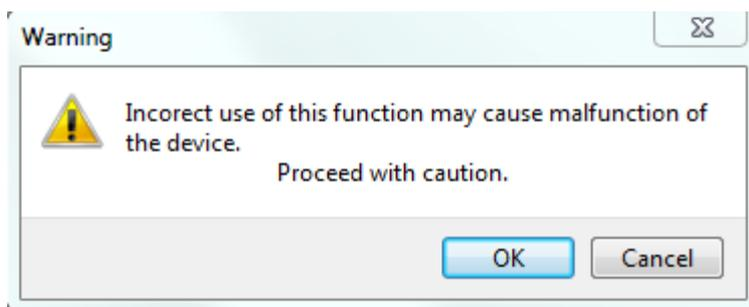

Fig. 25 Warning.
- Select: **OK** to start update (Fig. 25).